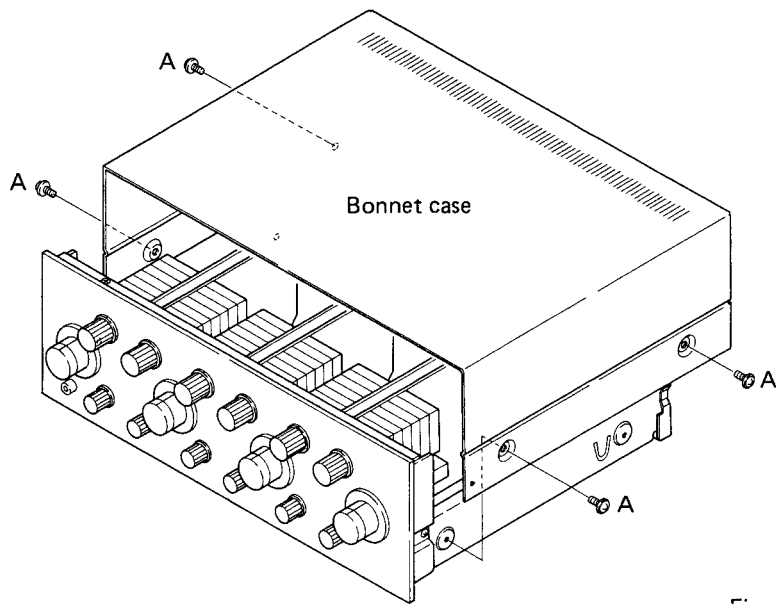

Fig. 19
Remove the 2 screws (A) at both sides of the bonnet case and lift off the case. (See Fig. 19)